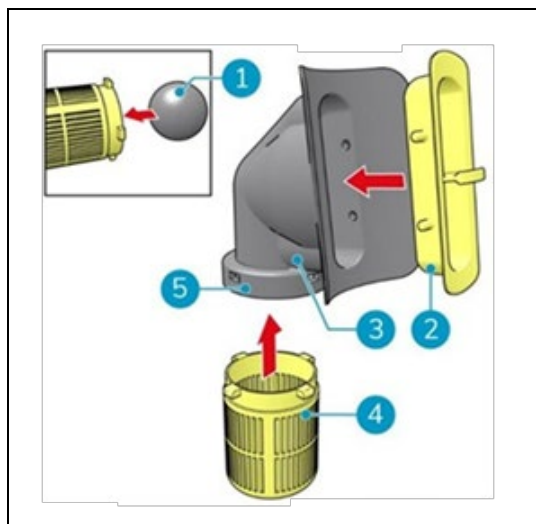

Figure 34
8. Place the floating ball in the float ball housing (Figure 34, pos 1).
9. Press the float ball housing (Figure 34, pos 4) into the rubber housing (Figure 34, pos 3). Make sure that the 4 nocks of the float ball housing fit into the holes in the rubber ring (Figure 34, pos 5).
10. Press the support frame (Figure 34, pos 2) in the rubber housing (Figure 34, pos 3). Make sure that the 4 nocks fit into the holes of the rubber housing.